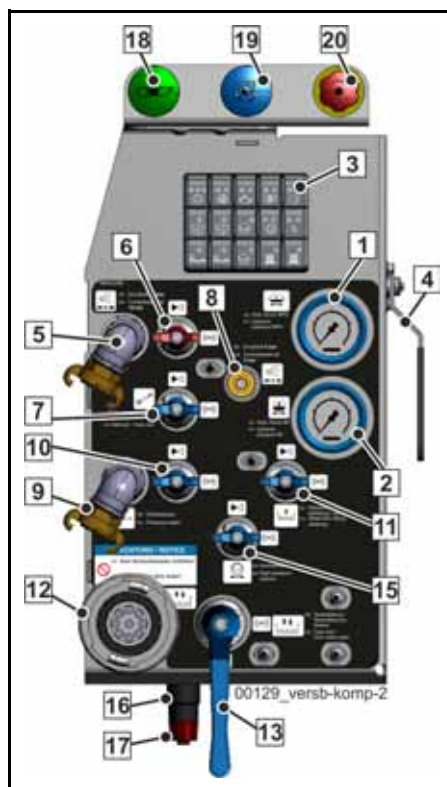

Fig. 476 Supply control
- Opening the ball valve (15) (**Fig. 476**) directs water from your machine's water case to the high-pressure pump. See information sign on the supply control.